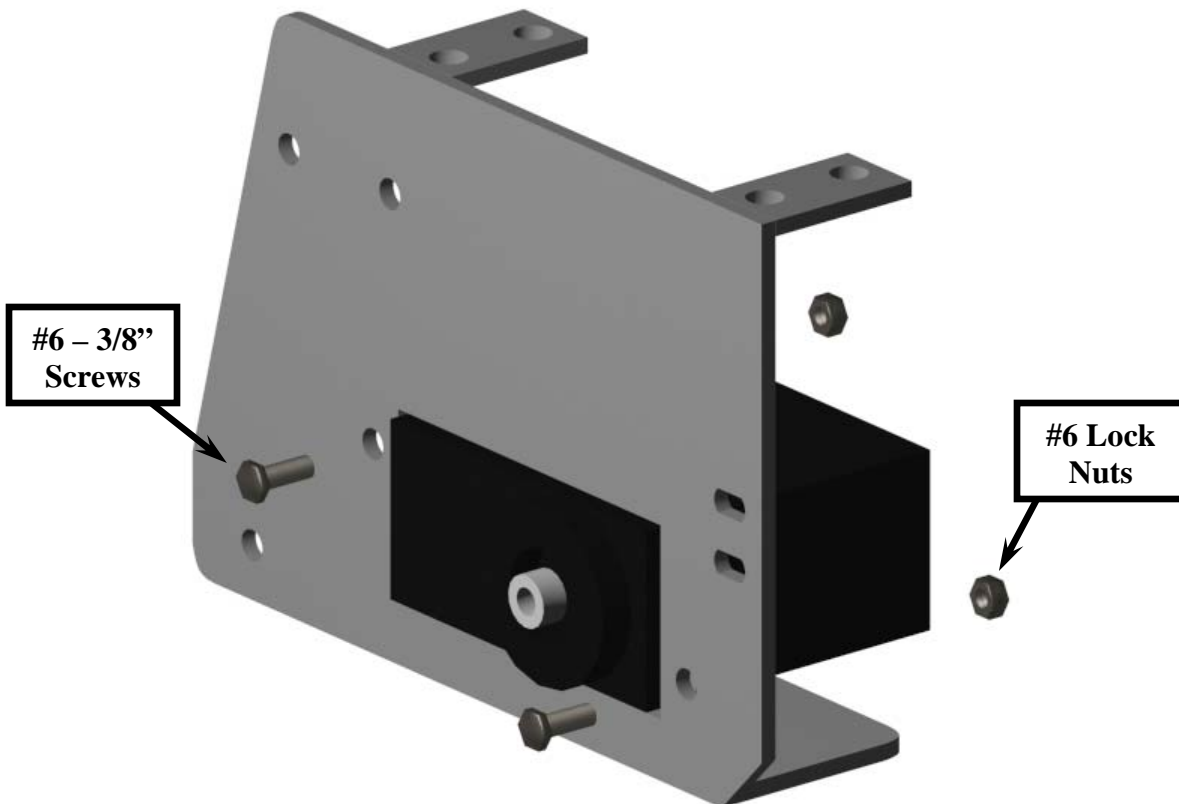

Figure 2: Mounting Servos
1. Install the servo into the rectangular portion of the servo mount. The servo gear head should always be orientated towards the straight end of the servo mount as shown in figures 2 and 3.
2. Using (2) #6 - 3/8" screws and lock nuts, install the servo to the aluminum servo assembly. Complete this step for all (6) legs of your QuadCrawler.